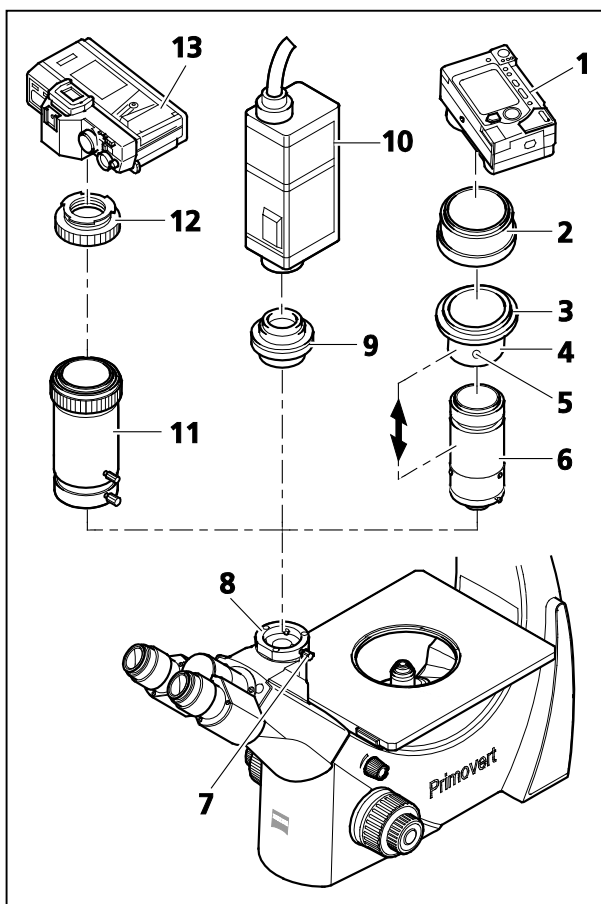

Fig. 37 Attaching the camera
- Loosen the clamping screw (Fig. 37/7) and remove the dust cap from the camera port (Fig. 37/8) of the binocular phototube.
- Sliding mount (Fig. 37/4), thread adapter ring M37/52 (Fig. 37/3) and lens mount (Fig. 37/6) are supplied pre-assembled as Digital Camera Adapter P95 M37/52x0.75. The opposite drawing shows this unit dismantled. Furthermore, you may unscrew the thread adapter ring M37/52 (Fig. 37/3) from the sliding mount (Fig. 37/4) (not shown) so that you can also attach cameras with M37 thread.
- Mount the adapter ring (Fig. 37/2) (optional accessory for the corresponding camera) to the camera (Fig. 37/1) (see the operating instructions of the camera).
- Screw the unit consisting of sliding mount (Fig. 37/4), thread adapter ring M37/52 (Fig. 37/3) and lens mount (Fig. 37/6) into the adapter ring (Fig. 37/2).
- Insert the camera with adapter into the phototube as far as it will go. Align it and fasten it with the clamping screw (Fig. 37/7).
- Depending on the microscope equipment or the camera used, it may be necessary to optimize the distance between camera lens and lens mount (Fig. 37/6) (see double-headed arrow). This will be necessary in particular if it is impossible to obtain an unvignetted image in any of the zoom positions of the camera lens. To this end, adjust the camera as follows:
- Loosen the set screw (Fig. 37/5).
- Zoom the camera lens through from wide angle (W) to tele position (T).
- Retighten the set screw (Fig. 37/5).
Cameras with C-mount thread are to be connected to the phototube of the microscope by means of the camera adapter P95-C 2/3" 0.65x or P95-C 1/2" 0.5x (Fig. 37/9).
- Put the video camera (Fig. 37/10) or single-lens reflex camera (Fig. 37/13) (using the T2 adapter for this camera (Fig. 37/12) together with the corresponding camera adapter (Fig. 37/9 or 11) into the phototube as far as it will go, align it and fasten it with the clamping screw (Fig. 37/7).